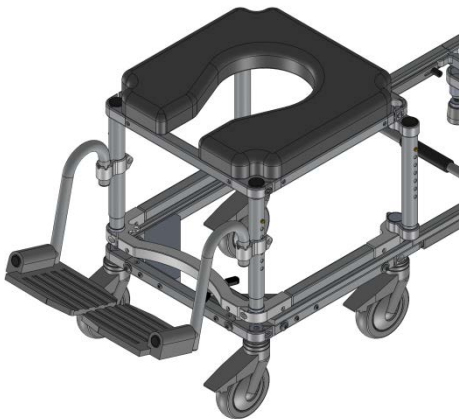

FIGURE 6
F. Place the footrests in footrest clamps per Figure 6. The footrests are height adjustable by positioning the footrest clamps along the front legs and again, using the ¼" Yellow T-Handle Allen wrench, tighten in the desired positions.